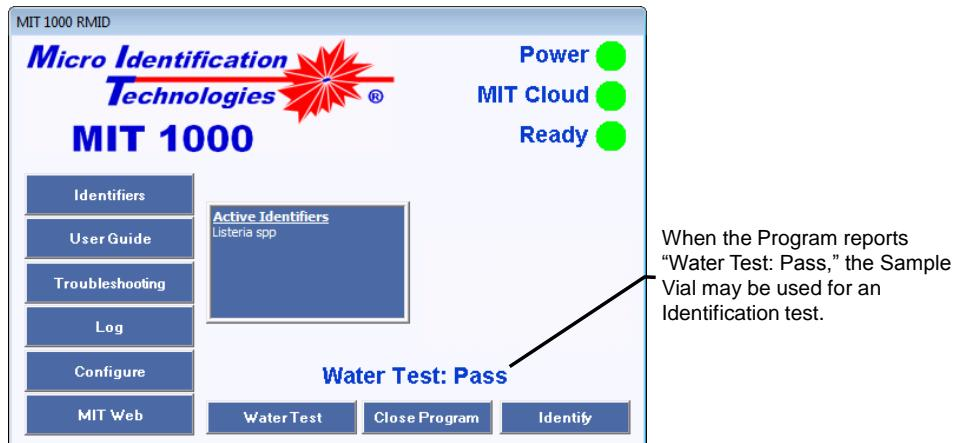

Figure 18 – Pass Water Test
- If the water quality is good, the test will require 30 seconds to execute and the MIT 1000 Application will display “Water Test: Pass.” (refer to Figure 18)